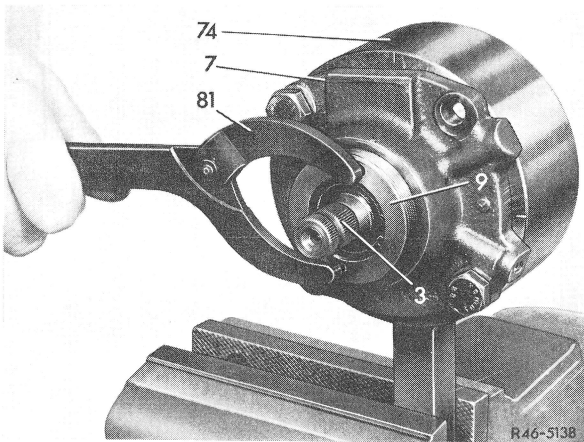

Fig. 6
6 Screw bearing insert (9) into bearing cap (7) and tighten lightly. Screw slot nut to bearing insert (Fig. 6).